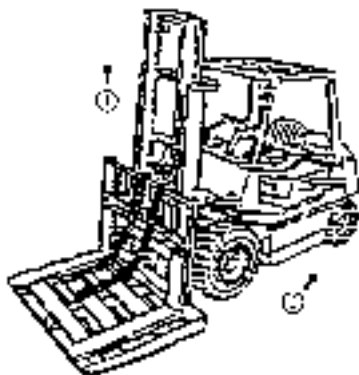

Fig. 8-8
- (1) Place a salver on the forks and make the forklift stop on the flat ground.
- (2) Make the forks and salver descend to the ground.
- (3) Take down the top joint of the chains. And take out chains from sheave.
- (4) Lift the inner and outer mast. (Fig.8-8 ①)
- (5) The forklift will be reversed when the lift bracket is disengaged from the outer mast.
(Fig. 8-8 ②)
- (6) Replace main rollers